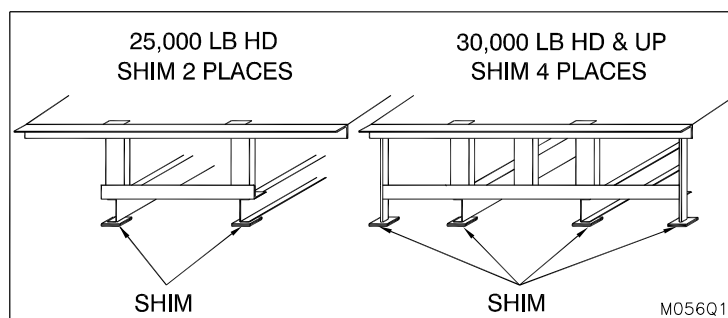

Figure 16: Hydraulic Dock Roll-Off Stop Rear Shims
1. ☐ Place shims of minimum length and width of 3" by 4" and a minimum thickness of 14 gauge under rear frame until top rear of dock leveler is flush with rear curb angle. (See "Figure 16: Hydraulic Dock Roll-Off Stop Rear Shims" on page 13 for shims placement.) Tack weld into position.